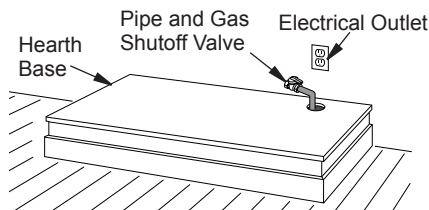

Figure 11 - Placing Hearth Base Against Wall
2. If blower is installed, install a properly grounded, 120 volt three-prong electrical outlet at fireplace location if an outlet is not there. If possible, locate outlet so cabinet mantel will cover it when installed (see Figure 11).
3. Place hearth base against wall at installation location. Cut an access hole in hearth base to run gas line to fireplace (see Figure 11). Make sure to locate access hole so cabinet mantel will cover it when installed.